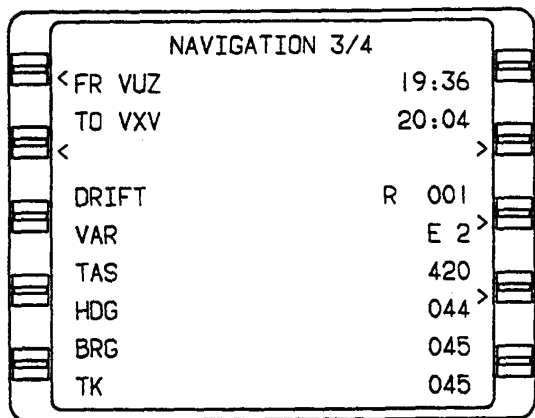

Figure 3A-28. FMS Navigation 3/4 Page
(4) *Navigation 3/4 Page*. Refer to Figure 3A-28.